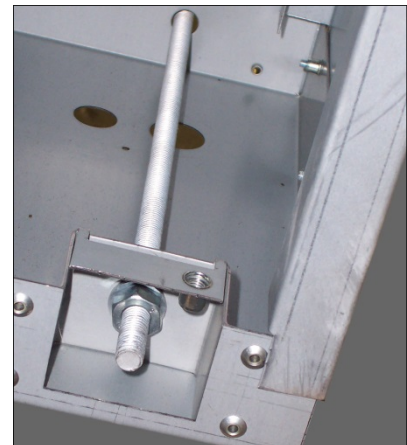

Fig 3
**Step 2** Fix M10 threaded rods (not supplied) through the 2 holes at each end in the top casing (see Fig 2). Feed the rods through the casing and attach to fixing brackets near the bottom of the unit (see Fig 3, looking up into the air curtain). Use M10 lock-nuts either side of fixing brackets to secure hanging rods. An additional threaded rod is fitted on a 1.5m unit with two extra threaded rods fitted on a 2m unit, see Appendices 1.